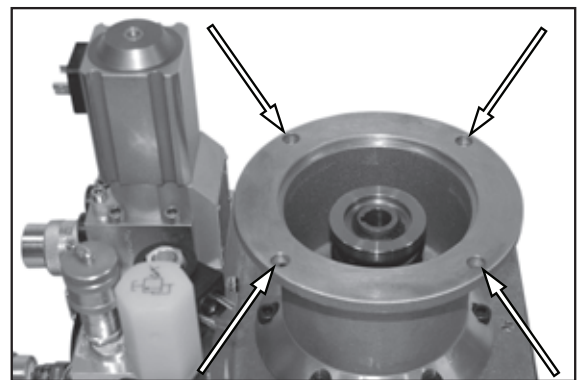

Figure 70.
6. See Figure 70. The orientation of the motor mount holes is very important. Position the mount so the holes are located as shown. Install the motor mount bolts.